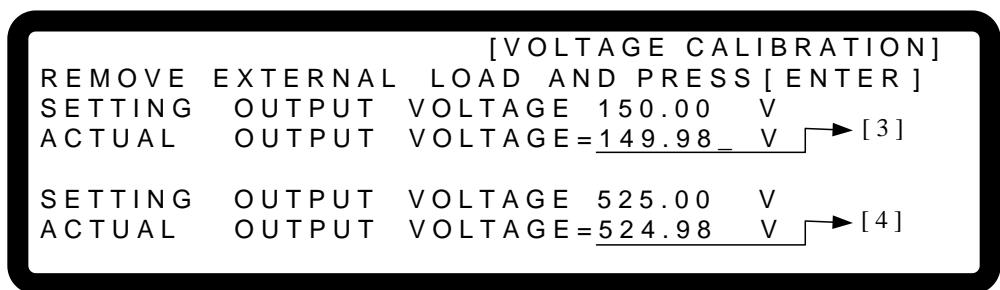

Figure 3-108
7. Press “” to do the high voltage range calibration. The instrument will set the output voltage to 150.00V and the cursor stops at position [3] as shown in Figure 3-108. Enter the voltage measured by the DVM and press “” to confirm.
8. Press “” again to do the high voltage range calibration for the second point. The instrument will set the output voltage to 525.00V and the cursor stops at position [4] as shown in Figure 3-108. Enter the voltage measured by the DVM and press “” to confirm.